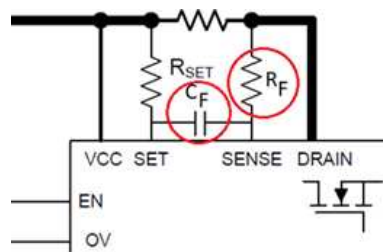

Figure 3. Low-Pass Filter in Current Sense Circuit
1. Place a low-pass filter on the current sense signal to de-sensitize the protection circuit from transients. This can be implemented on hotswap controllers or eFuses which use an external current sense resistor ( $R_{sense}$ ) as shown in Figure 3. The RC time constant of the low-pass filter determines the minimum duration for a peak current pulse to last before it can trigger the overcurrent response of the hotswap controller. This results in short transient current pulses being filtered out of the overcurrent response of the circuit, thereby improving the immunity of the circuit to line and load transient events. On the downside, it increases the overcurrent protection response time in case of actual faults such as overloads or short-circuits. This could have an adverse impact on the system performance and reliability. During a short-circuit fault, the delayed response of the circuit leads to extended stress on the power supply and may cause the supply to droop (depending on the amount of hold-up capacitance). There is also an increased risk of overheating and damage to backplane connector and downstream circuit components.